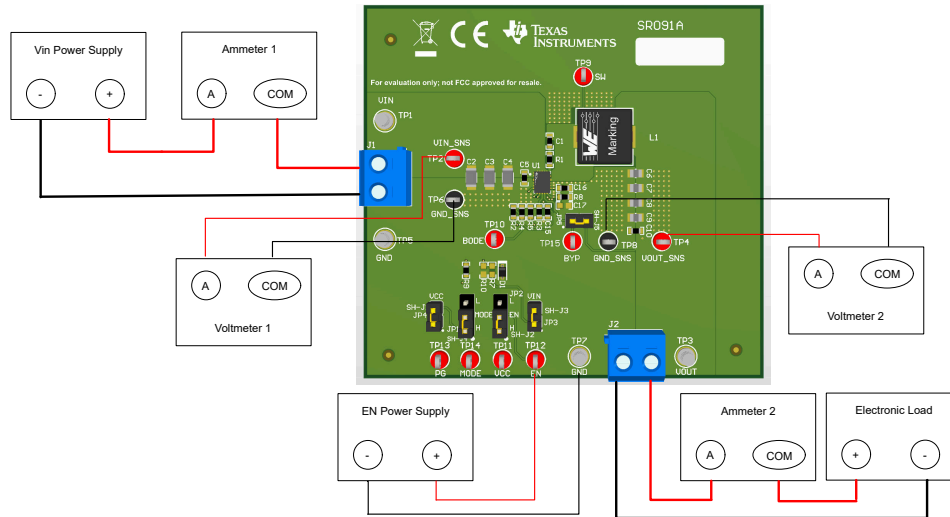

Figure 2-1. EVM Test Setup
Referencing the EVM connections described in Table 2-1, the recommended test setup to evaluate the TPS51388 is shown in Figure 2-1. Working at an ESD-protected workstation, make sure that any wrist straps, boot straps, or mats are connected and referencing the user to earth ground before handling the EVM.
1. Prior to connecting the DC input source, set the current limit of the input supply to 0.1A maximum. Make sure the input source is initially set to 0V and connected to the VIN_SNS and GND_SNS connection points as shown in Figure 2-1.
2. Connect EN DC source and set the current limit of the input supply to 0.1A maximum. Make sure the input source is initially set to 0V and connected to the EN and GND_SNS connection points as shown in Figure 2-1.